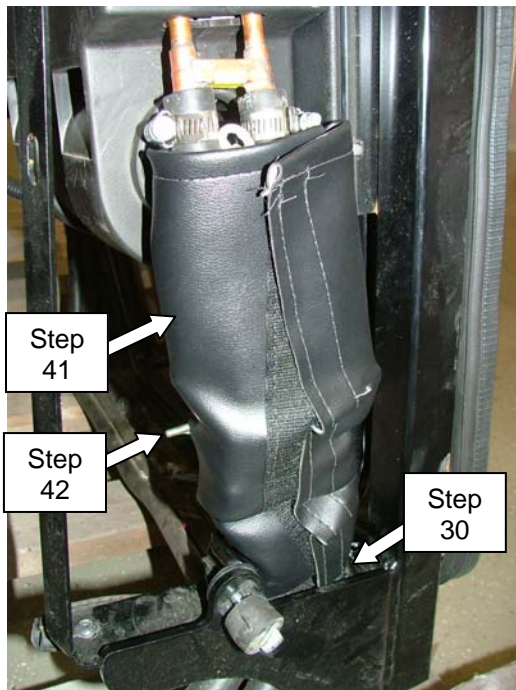

Figure 7
30. Remove 5/8" knockout from LH cab frame bracket (**Figure 7**). From inside of cab, route red and black wires with loom out 5/8" hole and up the inside LH cab frame tube to overhead switch panel fuse block location (**Figure 6**).
34. Install 10 amp fuse (19) into location selected in Step 33 .
41. Install protective heater hose cover fabric (18) to cover heater hoses at the valve location (**Figure 7**).
42. Cut the protective heater hose cover to allow access to the H-valve lever (**Figure 7**).